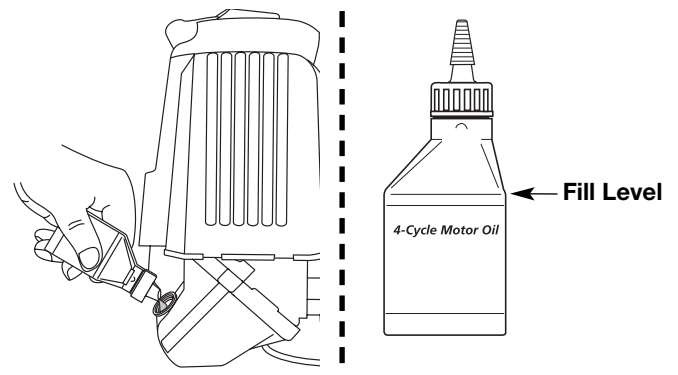

Fig. 18
NOTE: Use the bottle and spout saved from initial use to measure the correct amount of oil. Pour fresh fuel into the bottle and fill it to the top of the label. The top of the label on the bottle measures approximately 3.04 ounces (90 ml). Check the level with the dipstick. If the level is low, add a small amount of oil and recheck. Do not overfill (Fig. 18).
- Swing the cover to the left until the tab on the air filter cover snaps into place in the slot on the left side of the air filter housing (Fig. 18).